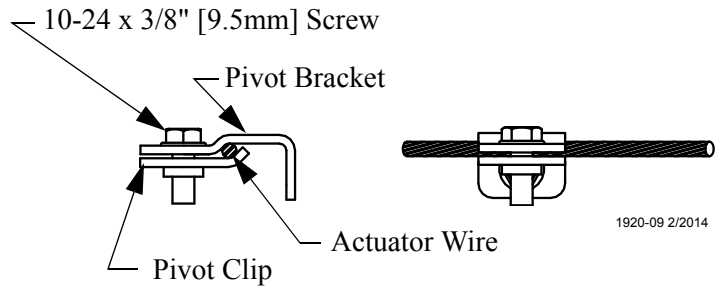

Figure 73. Clamping to actuator wire
1. Once all actuators are installed operate actuators to the fully open #10 brood position, **Figure 73**.
2. Using the first pan away from the actuator, push the inner cone to the open position. Place the actuator wire between the pivot bracket and pivot clip then tighten the 10-24 screw, see **figure 73**.